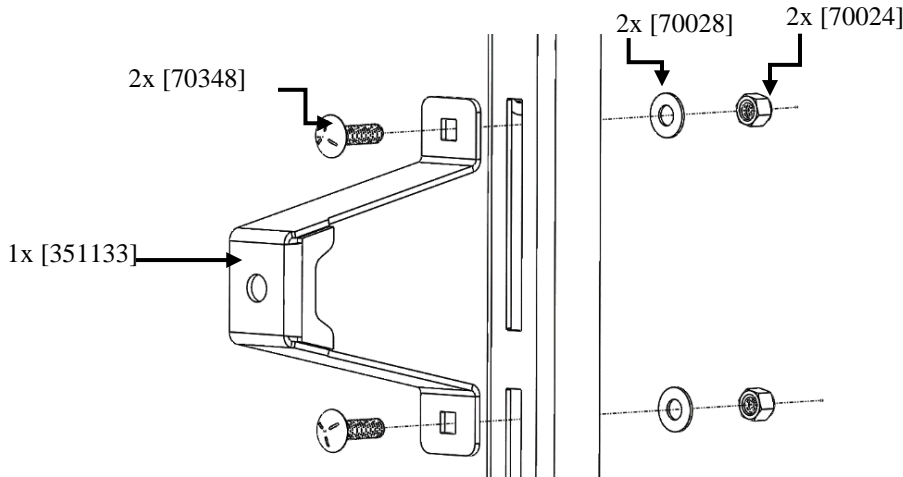

Figure 1: Mounting Tire Bracket
6. When installing your tire to the tire rack swing arm (if applicable), be sure to place the tire so that it rests on the two support arms before tightening anything down (**see Figure 1**)